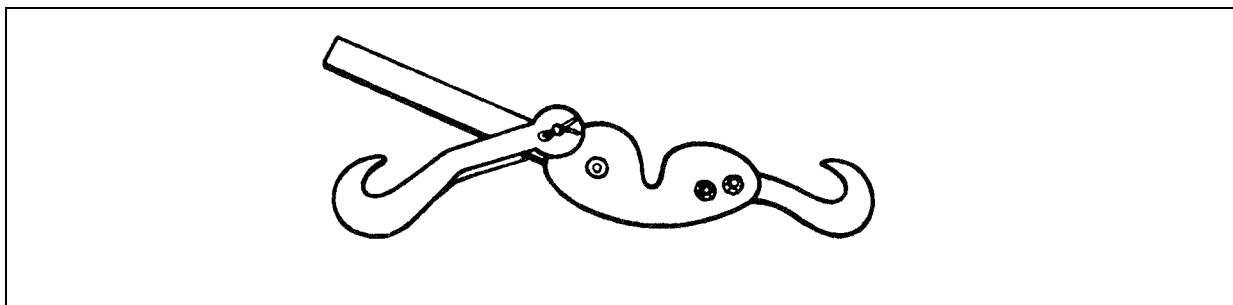
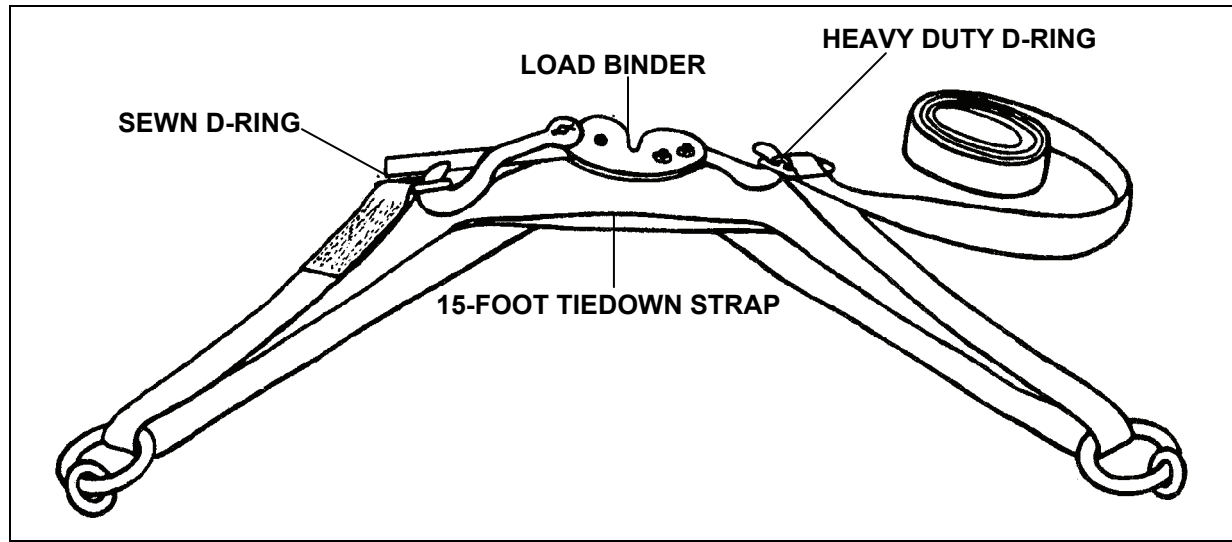

Figure 8-37. Load Binder
Figure 8-38. Tiedown Strap, Load binder, and Heavy Duty D-ring Combined
- **Load Binder.** The load binder (Figure 8-37) is a locking device which is used to tighten and secure lashing straps. Each binder consists of two body plates which attach at one end to a short hook and at the other end to a handle that holds a pivoting long hook. Use the following instructions to use a 15-foot tiedown strap with the heavy duty D-ring and load binder (Figure 8-38).